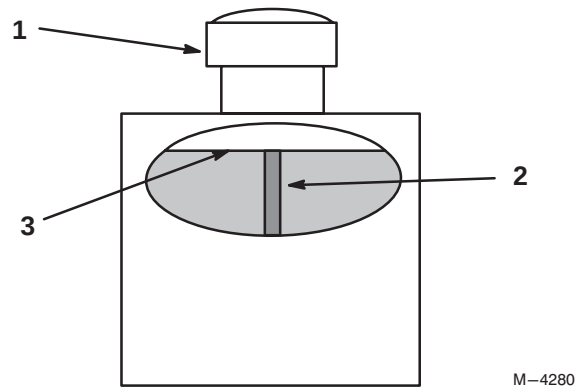

Figure 31
2. Clean area around filler neck of hydraulic tank (Fig. 31).
3. Remove cap from filler neck. Look inside to check if there is fluid in the reservoir. (Fig. 31).
Note: Fluid level should be to the top of the baffle when fluid is warm (Fig. 31).